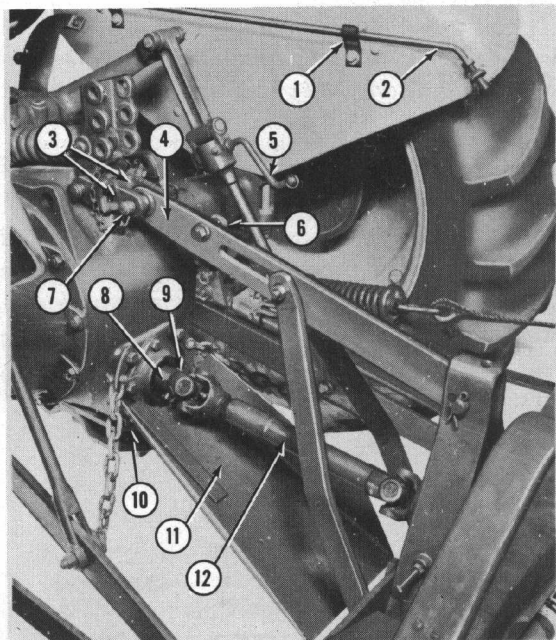

Figure 17
- From the tractor seat grasp the mower top link (4), Figure 17, with the right hand and hold it forward.
- Align the forward end of the top link horizontally with the leveling rod crank (5), Figure 17, so it will fit between the lugs on the bracket (3).
- Raise the mower SLOWLY with the Hydraulic Touch Control lever and guide the top link (4), Figure 17, into the bracket (3) with the right hand. Insert the
- pin (7) when the holes are aligned and secure with the linch pin provided on the tractor.
- Release the lock (6), Figure 17, from the top link anchor strap pin, lower the mower and shut off the tractor engine.
- a. Lower the right side of the mower main frame about one inch with the tractor leveling crank (5), Figure 17.
28. Loosen the bolt (10), Figure 17, on each side of the tractor center housing. Raise the drive shaft assembly (12), and position the guard (11) with the slotted straps over the two bolts as shown. Tighten the bolts (10), Figure 17, and lock washers against the guard straps.
29. Start the tractor engine, engage the P.T.O. lever, raise the mower and lock it in transport position with the lock (6), Figure 17.
31. Remove the tractor P.T.O. cap and attach the splined end of the mower drive shaft (8), Figure 17, to the tractor P.T.O. shaft and secure with the pin (9) and cotter pin. Be sure both splines are free from burrs and dirt.
32. Place the transport rod (2), Figure 17, in the clips (1) as shown.
13. Attach the splined end of the mower drive shaft (8), Figure 17, to the tractor P.T.O. shaft and secure with the pin (9) and cotter pin provided. Be sure both splines are free from burrs and dirt.
3. Detach the splined end of the drive shaft (8), Figure 17, from the tractor P.T.O. shaft. Replace the pin and cotter pin in the mower drive shaft and attach the P.T.O. cap to the tractor.